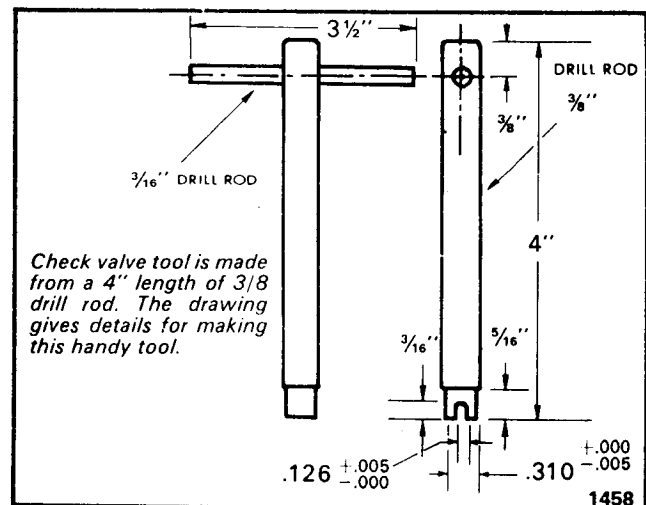
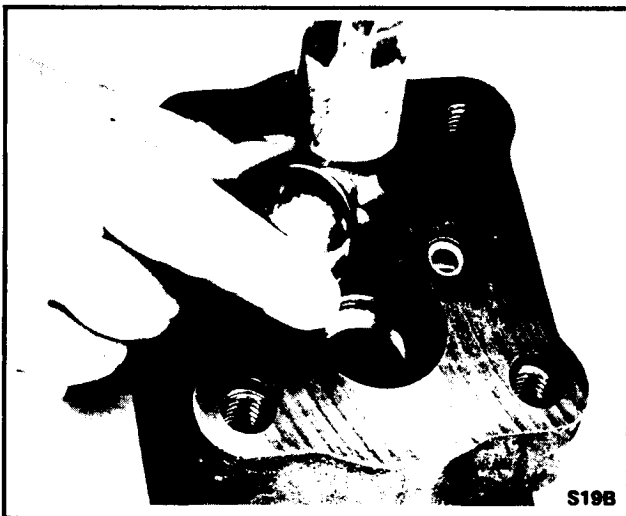

Fig. 21—Check Valve Removal Tool
Fig. 22—Peening Over Check Valve Bores
2. Grip the shaft end cover in the vise with the mounting face down. Examine the plug or 2 check valves, whichever is used to be sure that they are tightly in place. Replace only if parts are missing. To replace a damaged plug, screw in the new plug until one thread of the hole is visible. Peen around the edge of the bore with a prick punch to secure. Check valves can be removed with the tool illustrated in Fig. 21. Thread in the new valve with the tool until tight. Peen with a 1½" steel ball to secure as shown in Fig. 22.